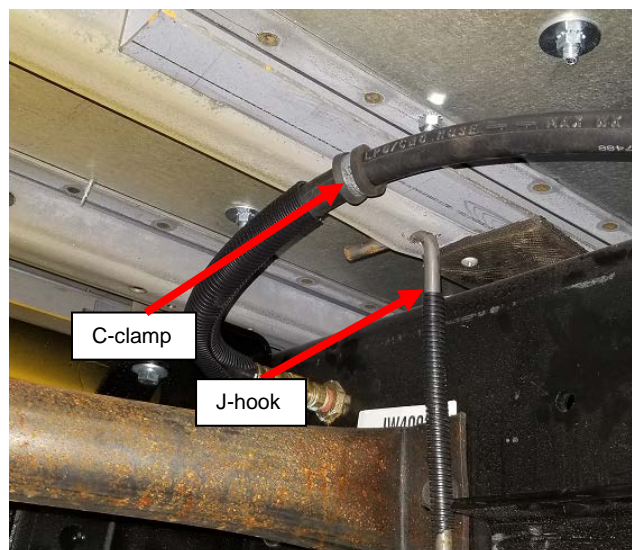

Figure 5: Routing the Fuel Line Around the J-hook
7. Route the fuel line around the J-hook with a C-clamp and screw (using the correct size for the fuel line) 6 in. from the frame rail, as shown in **Figure 5**. Make sure the line does not rub at any point.